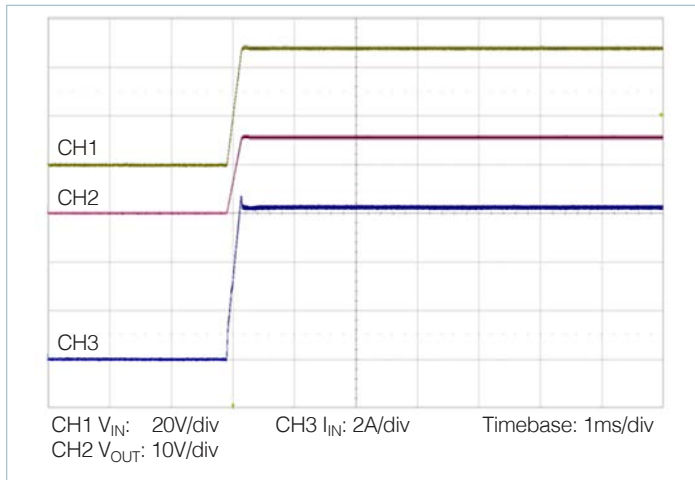

Figure 13 — Start up from application of V_{IN} ; V_C pre-applied $C_{OUT} = 800\mu\text{F}$
- **Normal operation (VC applied prior to V_{IN}):** In this case the controller is active prior to ramping the input. When the input voltage is applied, the VTM module output voltage will track the input (See Figure 13). The inrush current is determined by the input voltage rate of rise and output capacitance. If the VC voltage is removed prior to the input reaching 26V, the VTM may shut down.